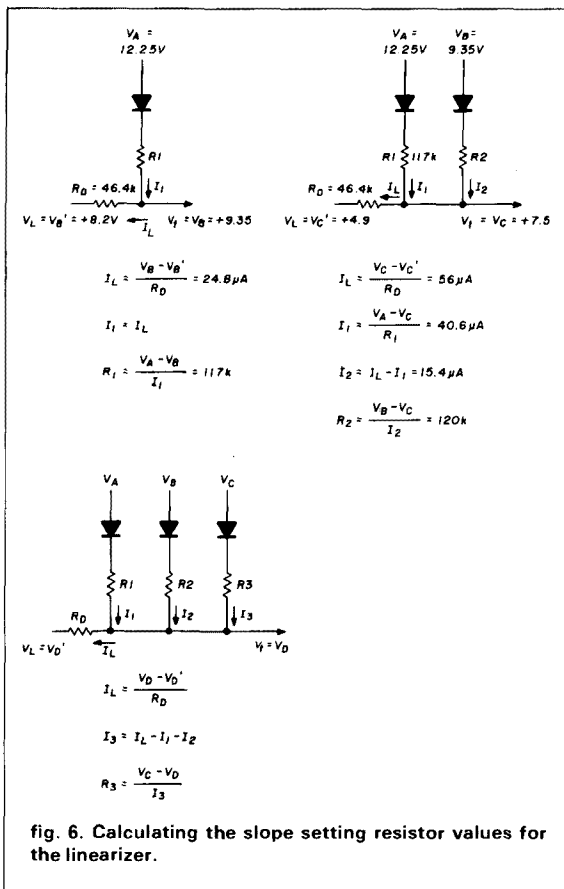

fig. 6. Calculating the slope setting resistor values for the linearizer.
The last unit to determine in the set of electrical standards is the volt. This unit can be determined in one of two ways. First, a very precise one-ohm resistor could have one ampere of current passed through it; as a result of Ohm's law, a one-volt drop would exist across this one-ohm resistor (see fig. 6). This very precisely determined volt would then be compared to some standard saturated cells and the results of this comparison would then be the nominal mean value assigned to this reference group. By having a number of standard saturated cells, the drifting of one cell to a few millionths of a volt above an actual volt would be offset by another cell drifting a few millionths of a volt in the other direction and collectively averaging all readings, a mean or average would then be obtained. But there are two problems with this technique, which the NBS used until most recently. First, the cells drifted; and second, since the volt was defined as a result of first determining the ampere, the problem was compounded by the practice of precisely redetermining the ampere only once or twice per decade.
fig. 6(A) Block diagram of the overall voltage standard system, with a Josephson junction voltage reference for the potentiometer, which is used to calibrate standard cells. (B) Josephson junction device mounted in a microstripline enclosure (with the cover removed from the box).
By assuming perfect diodes (i.e., no forward voltage drop), resistors R_1 through R_5 can be determined. To keep the current through the diodes at a minimum R_D should be fairly high (46.4k chosen here). By knowing what voltage the linearizer requires at its input (V_L) to generate a corresponding voltage at the output, (V_t) (fig. 2) resistors R_1 through R_5 can be calculated (fig. 6).